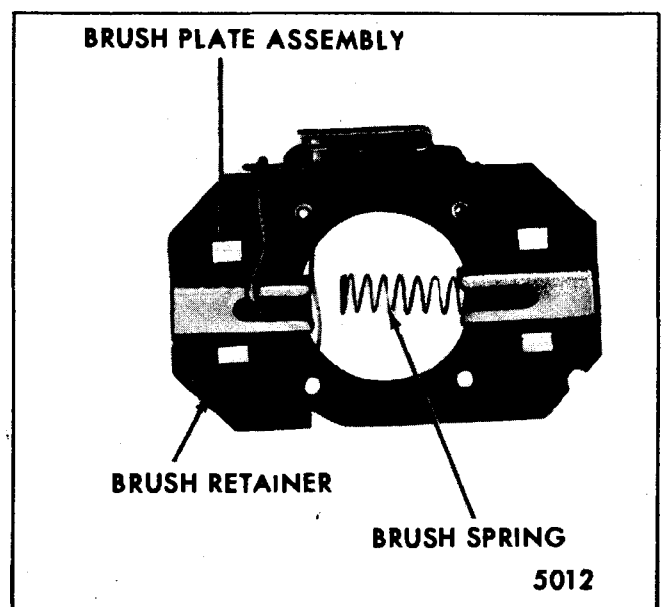

Fig. 2-37-Brush Plate Assembly - Removed
- Position the partially assembled brush plate, Fig. 2-37 over the armature shaft far enough to allow reassembly of the remaining brush in its brush